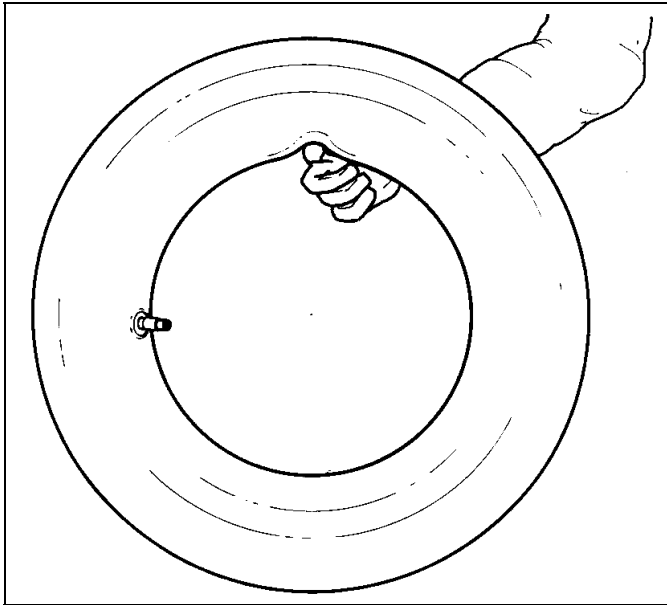

Fig.24
C. Inflate the tube slightly; if held with the indexfinger it should bend a little (Fig.24).